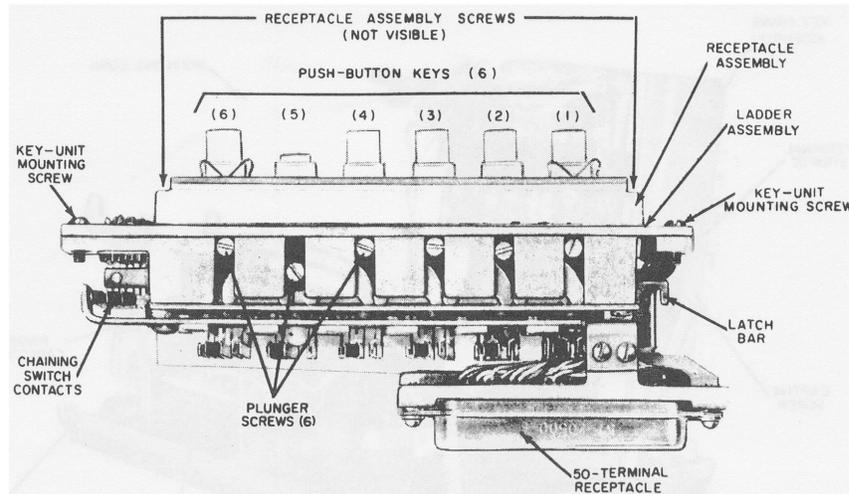
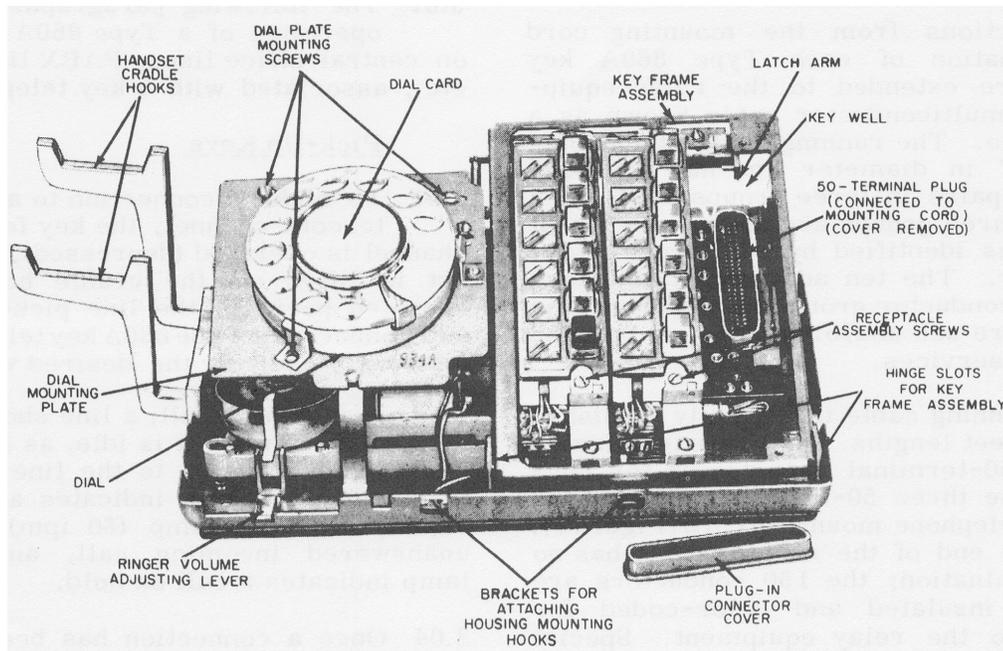

Figure 3. Key-Strip Unit (6-key) Showing Six Line Pick-Up Keys (D-59307-A).
Figure 4. Type 860A Telephone with Key Blank and Cover of Plug-In Connector Removed (Ready for Installation of Third Key-Strip Unit).
2.03 Each of the 6-key, key-strip units include a 50-terminal receptacle (Figure 3). All connections from the key-strip unit are made to this receptacle. (No soldered connections or other wiring is needed.) These receptacles connect directly to 50-terminal plugs which are fastened to the key frame assembly (Figure 4). There are three 50-terminal plugs, one for each key-strip unit (or position). Not all terminals on each plug are used.
4.03 Carefully lift off the clear plastic faceplates and the face mat that fit over the dial and keys. Next, remove the key telephone housing by loosening the two rear housing lock screws and lifting the rear of the housing; move the housing forward to disengage the housing mounting hooks at the front of the unit (Figure 4).
4.10 A 6-key, key-strip unit (D-59307-A, Figure 3), identical to that used in the second vertical row, maybe substituted for the white plastic key-strip blank furnished in the third position when more than 12 keys are required. The following paragraphs contain the information necessary to replace a key-strip blank with a key-strip unit. A screw-
4.12 Lower the key-strip unit, rear endfirst, into the key well provided for it in the key frame (Figure 4). Slide the unit toward the rear of the well until its forward end clears the frame. Engage the latch arm and the receptacle (both in the key frame assembly) with the latch bar and the plug, respectively, at the rear of the key-strip unit. Press the unit firmly into place in the well and tighten the mounting
4.14 Remove the key telephone housing (paragraph 4.03) and loosen the two receptacle assembly screws on the key-strip unit (Figure 4) containing the key or keys to be blocked. Lift the receptacle assembly (Figure 3) off the ladder assembly, exposing the six key shafts. Holding the receptacle assembly upside down, remove the retaining strip and place the blocking rings inside the push-button collars of the keys to be blocked.
4.16 If the hold key (paragraph 3.09) is not required, the key-strip unit in which it is located can be replaced with a 6-line pick-up key unit (Figure 3). Individual keys cannot be replaced. A screwdriver and the 6-key key-strip unit (D-59307-A) are needed for this conversion.
- 4.22 Remove the key telephone housing and loosen the two mounting screws at either end of the key-strip unit containing the keys to be converted. Raise the unit out of the key well in the key frame assembly. Remove the plunger screw (Figure 3) from each line pick-up key that is to be converted to signal use. Then, replace the unit in the key well, being sure to engage the latch arm and the receptacle in the key frame assembly with the latch bar and plug on
- 4.25 Remove the key telephone housing (paragraph 4.03) and loosen the three dial mounting screws (Figure 4). Move the dial assembly toward the rear of the unit and lift it clear, exposing the transmission unit.